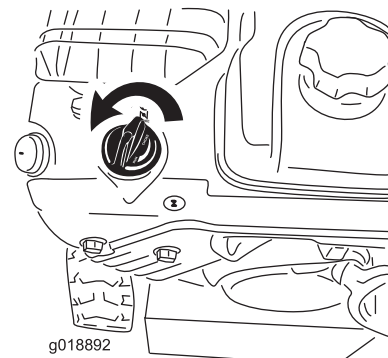

Figure 23
5. Rotate the choke to the Choke position (Figure 23).